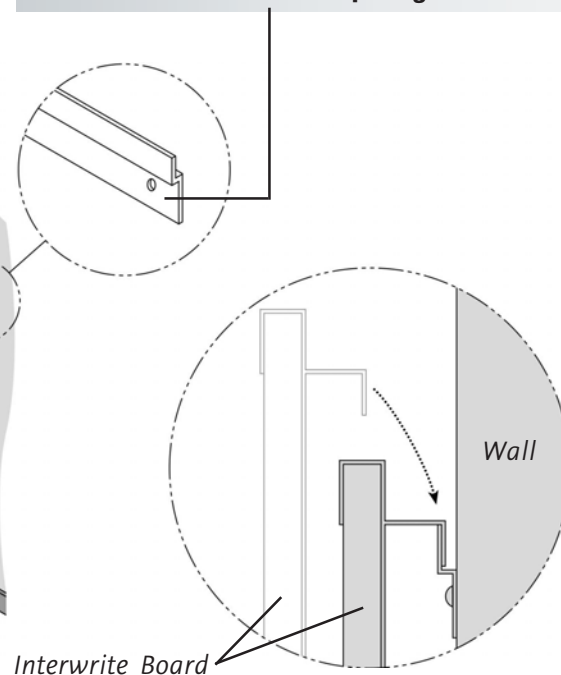

Figure 2
- 2** Hang the Interwrite Board by interlocking the Wall Mounting Bracket with the rear edge of the top part of the Interwrite Board frame, shown in *Figure 2*.